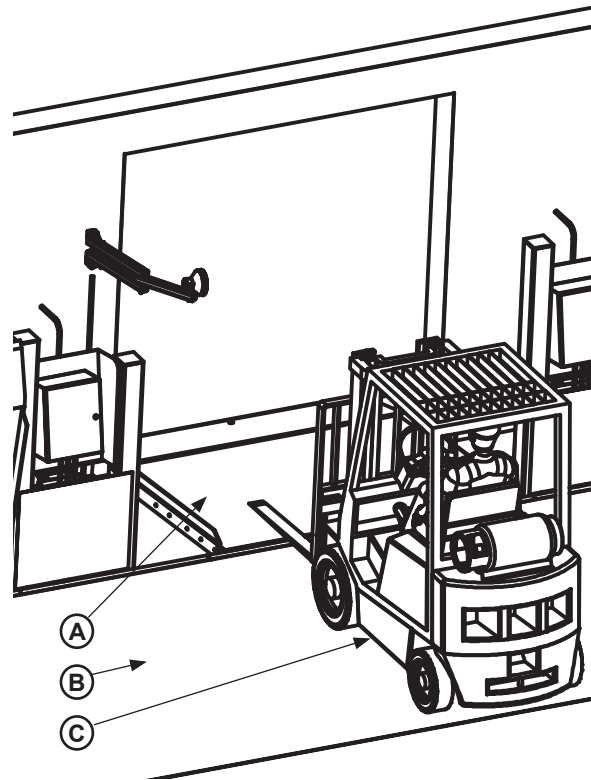

Figure 22
- a. Follow the dock equipment's sequence of operation to allow the leveler to operate. Then press and hold the lower button until the platform is level with the dock floor. See **Figure 22**.
b. Make sure the platform lowers to the pit floor, while standing on the platform or slowly driving a forklift's front wheels onto it. See **Figure 22**. If the platform does not reach to pit floor, check the adjustment of the yoke to allow proper travel. See pages 18-19.